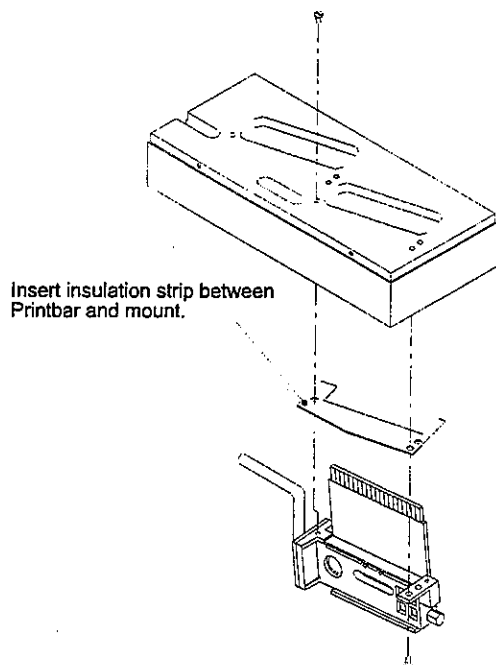

Figure 4.2 - Insulation Strip
6. Mount the Printbar in the BK602/BK601 head mount using two 6-32 UNF screws. Be sure to insert the brown insulation strip between the head mount and the Printbar (*see Figure 4.2 below for an illustration*).